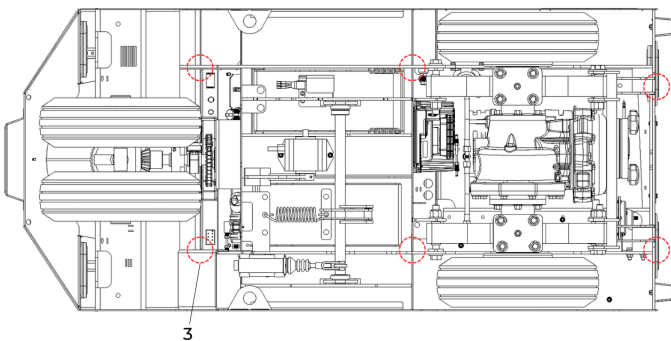

Figure 31. Hitch Mounting.
- Weld zones (3) (see Figure 31, not all welds are shown).